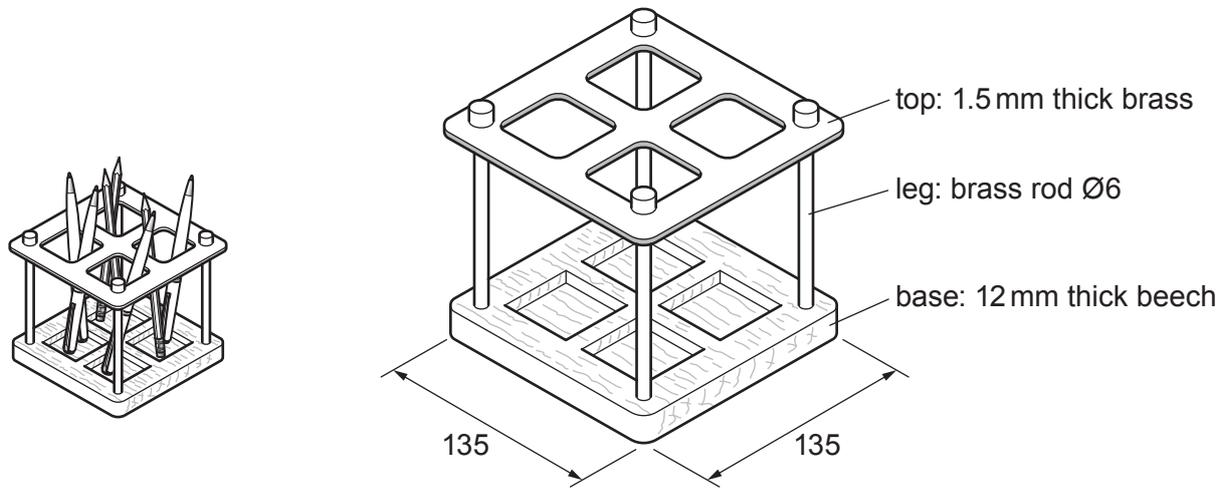

Fig. 11.1
11 Fig. 11.1 shows a pen and pencil holder.
- (d) Use sketches and notes to show a modification to the design of the pen and pencil holder shown in Fig. 11.1 that would make it easier to carry. Name all materials and constructions used.